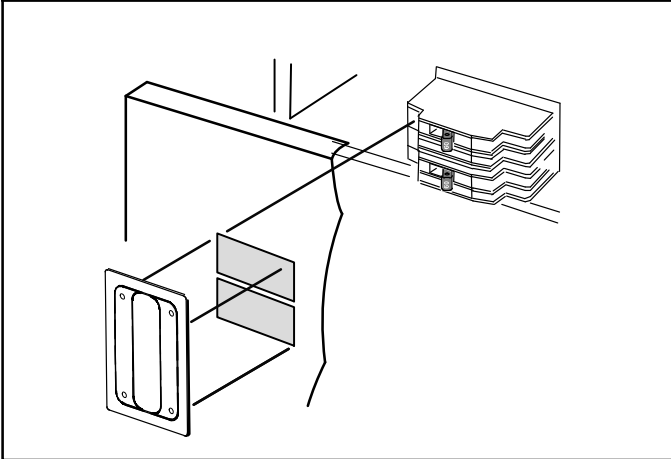

Figure 21. Typical Circuit Breaker Cover Installation
3. Position the breaker cover over the air handler circuit breaker opening (figure 21).